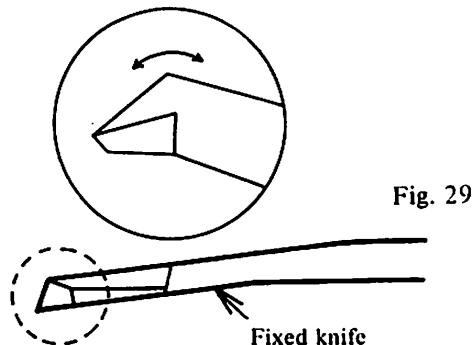

Fig. 29
* To improve the contacting of the moving and fixed knife, change the angle of the arrow mark of Fig.29. When the D side of Fig.28 does not cut well, shorten the angle and when the C side does not cut well, make the angle larger.